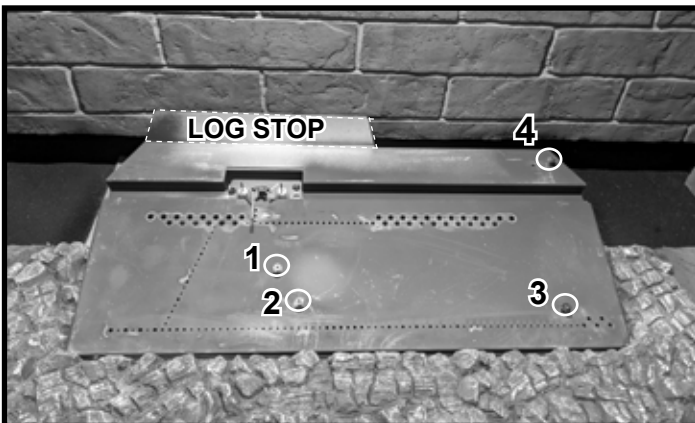
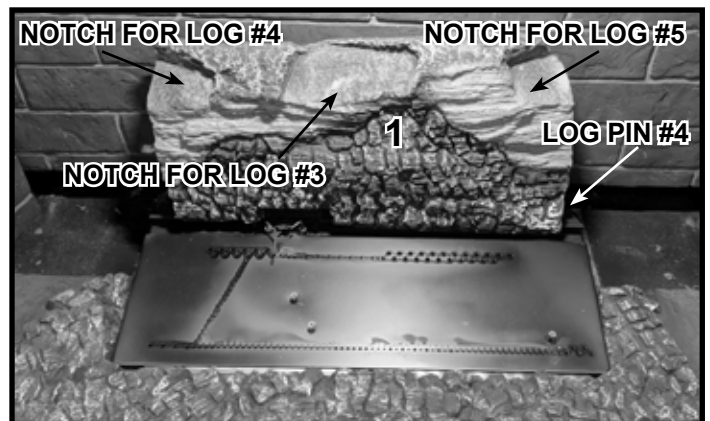

Figure 2 Locations for Log Pins
Figure 3 Position Log #1
1. Reference the four log pins and the location of the log stop shown in Figure 2.
**Log #1:** Place Log #1 as shown in Figure 3. The right end touches Log Pin 4. Push the log back until it rests against the log stop shown in Figure 2.
**Log #2:** Place Log #2 using the three log pins as shown in Figure 2 and Figure 4.
**Log #3:** Place the top end of Log #3 on the notch located on Log #1. See Figure 3 and Figure 5. Place the bottom end of Log #3 as shown in Figure 5. The burned out side of Log #2 and the knot on Log #3 align, but do not make contact. See Figure 5 and Figure 7.
**Log #4:** Place the top end of Log #4 on the notch located on Log #1 as shown in Figure 3 and Figure 6. Place the bottom of Log #4 seven inches from the bottom of Log #3 as shown in Figure 6.
**Log #5:** Place the top end of Log #5 on the notch located on Log #1. See Figure 3 and Figure 7. The bottom end of Log #5 rests on the base refractory as shown above. The space between the bottom right side of Log #3 and the bottom left side of Log #5 should measure 13-1/2 inches as shown in Figure 7.